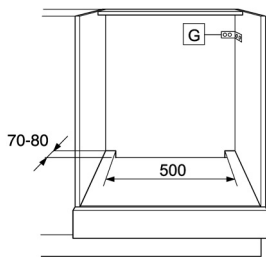

Fig. 7
- If the unit is not securely fixed to the wall, it must be anchored with standard brackets (G) (fig. 7).